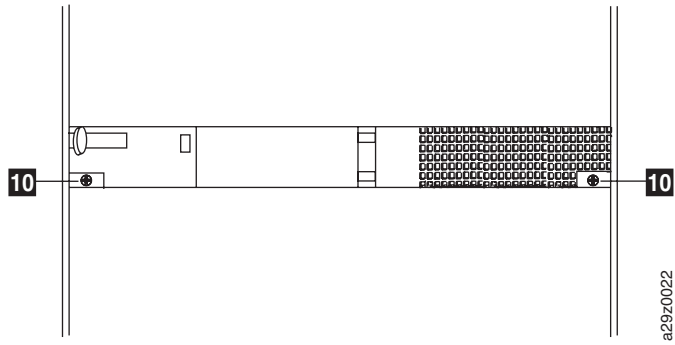

Figure A-7. Removing screws at the rear of the library
- a. Remove the two round-head screws **10** on each rear bracket securing the rear of the library to the rack (Figure A-7).